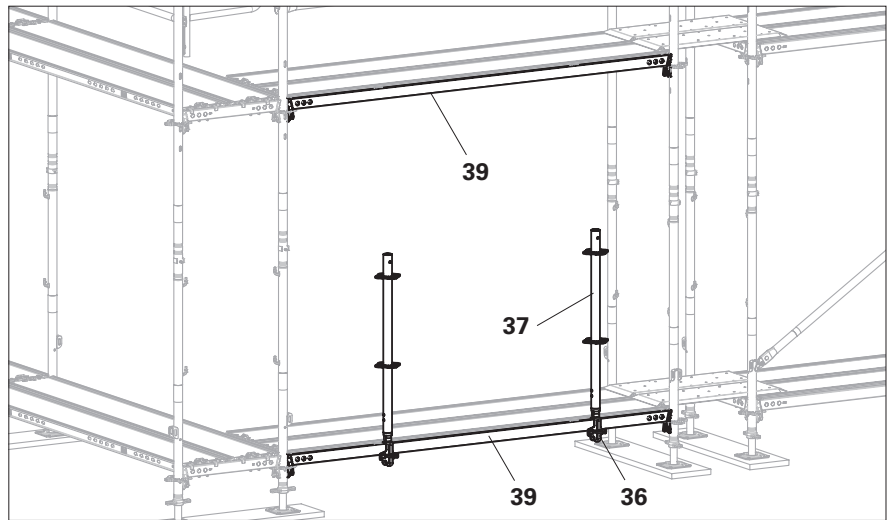
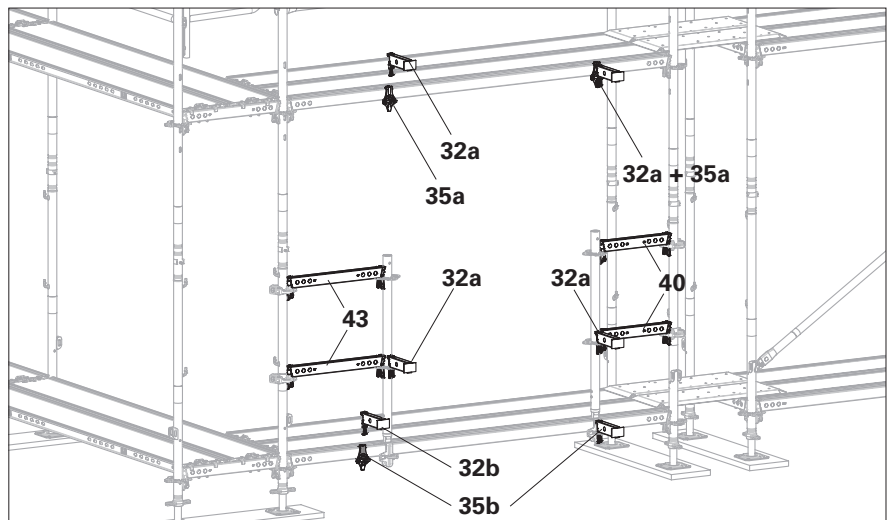

Fig. C7.01
Fig. C7.02
1. Assemble one Horizontal Ledger UH-2 (39) each on the outer side of the scaffold at the deck level of the base layer and the first scaffolding level.
2. Mount the Ledger-to-ledger Coupler UHA-2 Half with pin (36) on the horizontal ledger. The position depends on the construction door used.
3. Attach Top Standard UVH-2 100 (37). (Fig. C7.01).
4. Fit 2 x Horizontal Ledgers UH-2 50 (40) and 2 x Horizontal Ledgers UH-2 67 (43).
6. Mount additional ledger-to-ledger coupler (35b) and Support UC 25 (32b) as support for Steel Deck UDG-2. (Fig. C7.02)